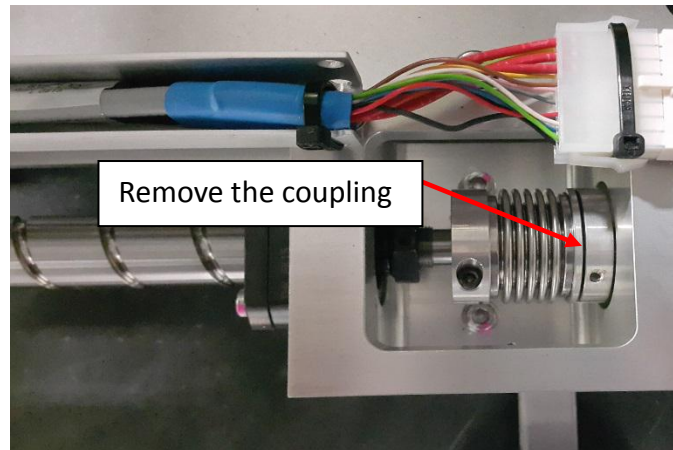

Figure 4 Motor Mount
- Remove the coupling shown in Figure 4.